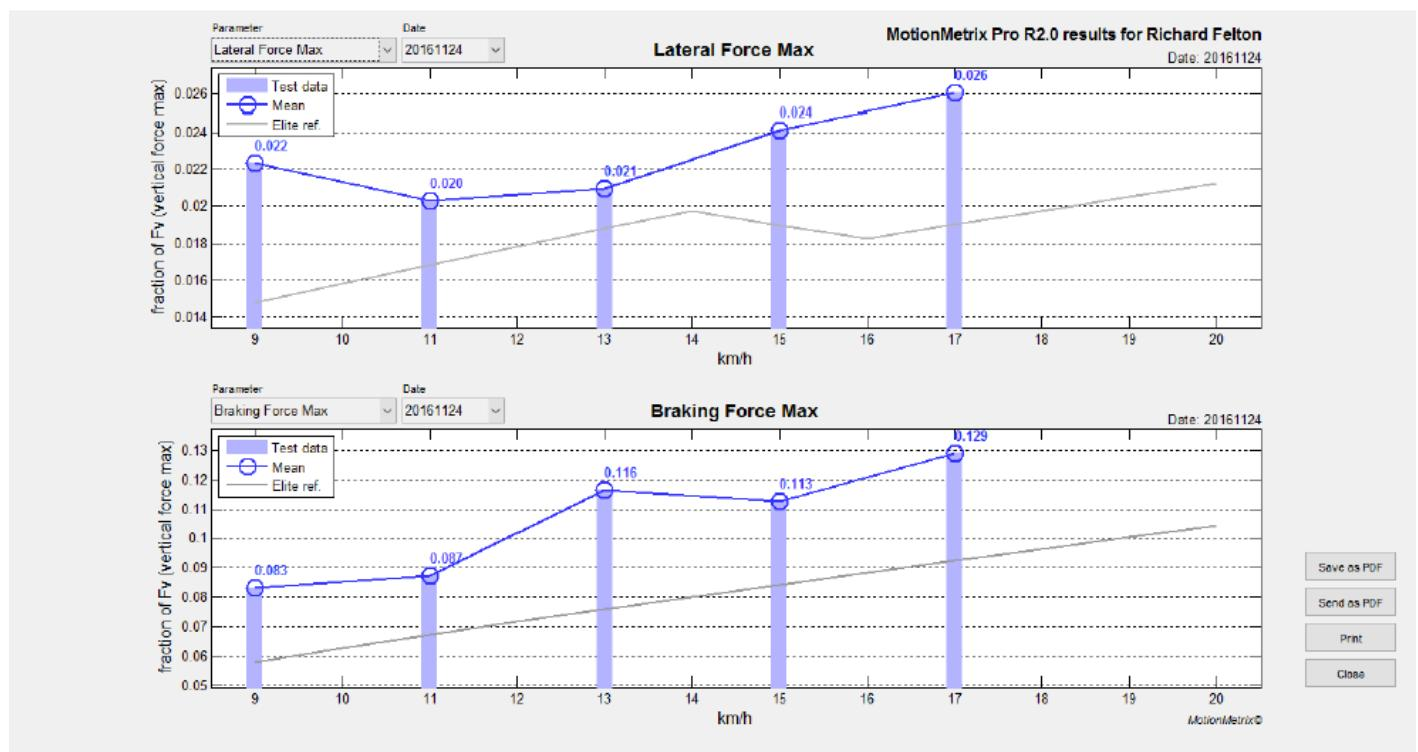

Fig8. Lateral force and braking force changes at different speeds
- Braking and lateral forces are also high and continue to increase as the runner approaches race pace. This Suggest the runner's eccentric control and strength is too low or inefficient (**See Figure 1 and Figure 8**)